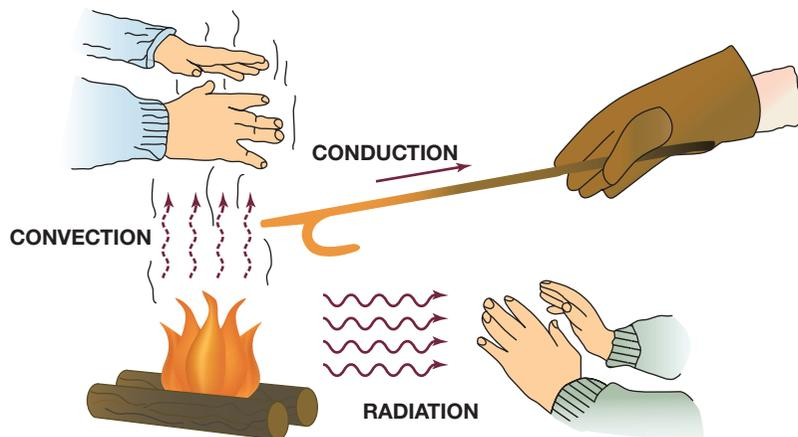

FIGURE 1-12 Heat can be moved from the source by convection, conduction, or radiation.
3. radiation ● SEE FIGURE 1-12.